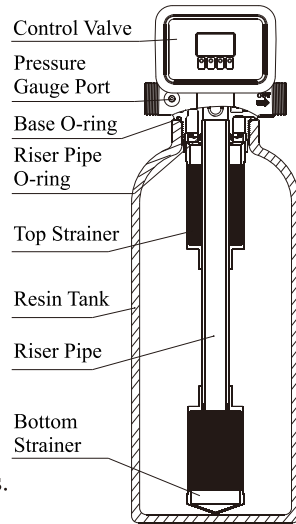

Figure 1-1
- ①The filter or softener should be located close to drain.
- ②Ensure the unit is installed in enough space for operating and maintenance.
- ③Brine tank need to be close to softener.
- ④The unit should be kept away from the heater, and not be exposed outdoor. Sunshine or rain will cause the system damage.
- ⑤Please avoid installing the system in one acid/alkaline, magnetic or strong vibration circumstance, because above factors will cause the system disorder.
- ⑥Do not install the filter or softener, drain pipeline in circumstance which temperature may drop below 5℃, or above 50℃.
- ⑦Install the system in the place where with the minimum loss in case of water leaking.
① Install control valve
b. As the Figure 1-1 shows, insert the riser pipe to the bottom strainer, glue the connection part, and put it into the bottom tank, cut off the exceeding pipe out of tank top opening. Plug the riser pipe in case of mineral entering.